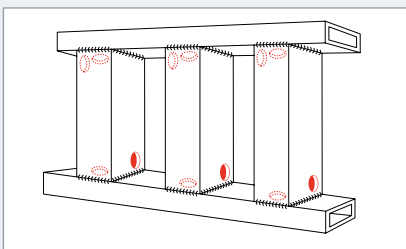

Fig. 3
- Holes for venting and draining should be diagonally opposite one another at the high point and low point of the fabrication as it is suspended for galvanizing (fig. 3).